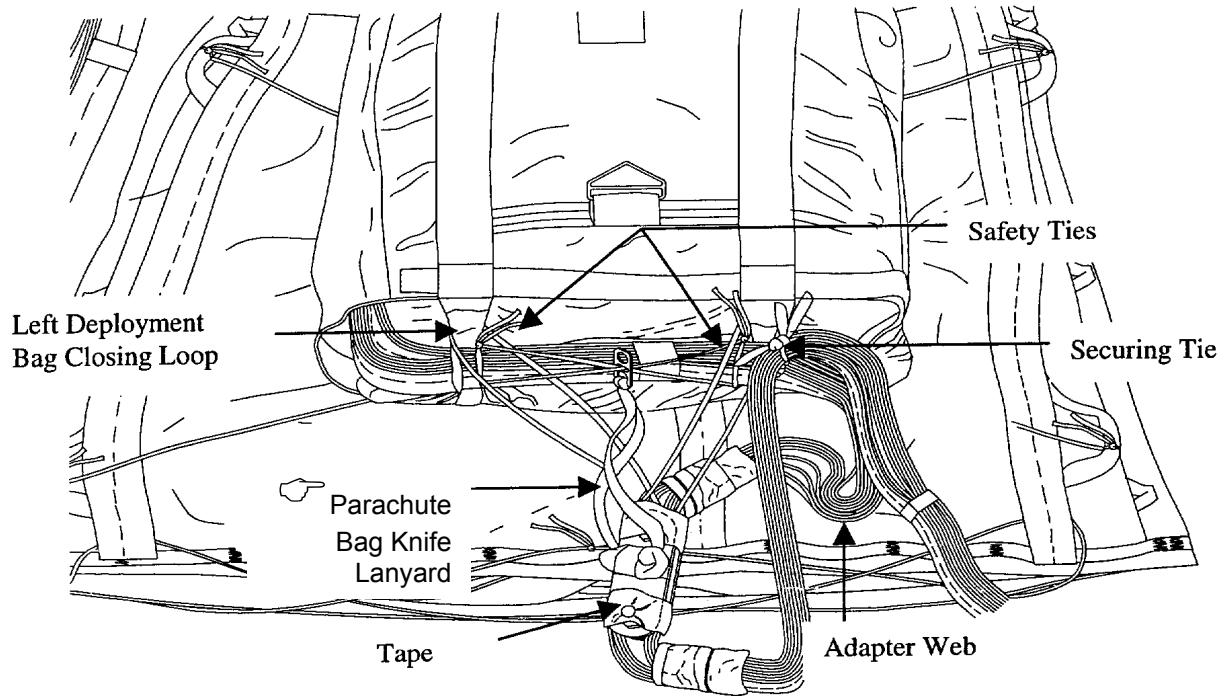

Figure 16. Safety Ties Installed.
- f. Safety the two-point link to the bag closing loops (centered between bag closing loops) with the two lengths of type III nylon cord. Pass one length around adapter web attaching bolt on the two-point link and through top left bag-closing loop. Pass the second length around the adapter web attaching bolt on the two-point link and through top right bag closing loop. Secure with surgeon's knot, locking knot, and an overhand knot in the running end (figure 16).
- g. Cut a 24-inch length of $\frac{1}{4}$ -inch cotton webbing, double it and secure extraction line to top right deployment bag tie loop (figure 16).